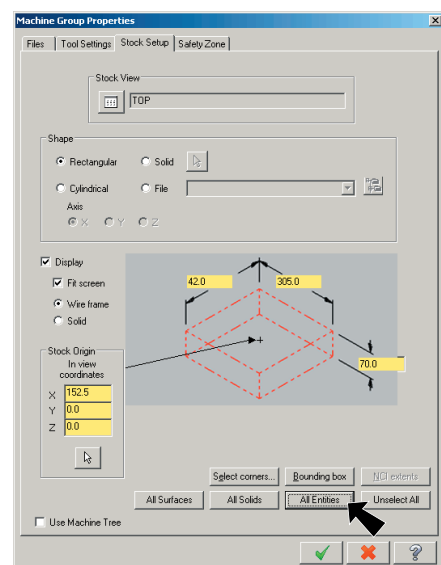

Fig. 2
Step 5. Click **All Entities** button in the Stock Setup, **Fig. 2**.
Step 6. Click OK  in the Machine Group Properties, **Fig. 2**.